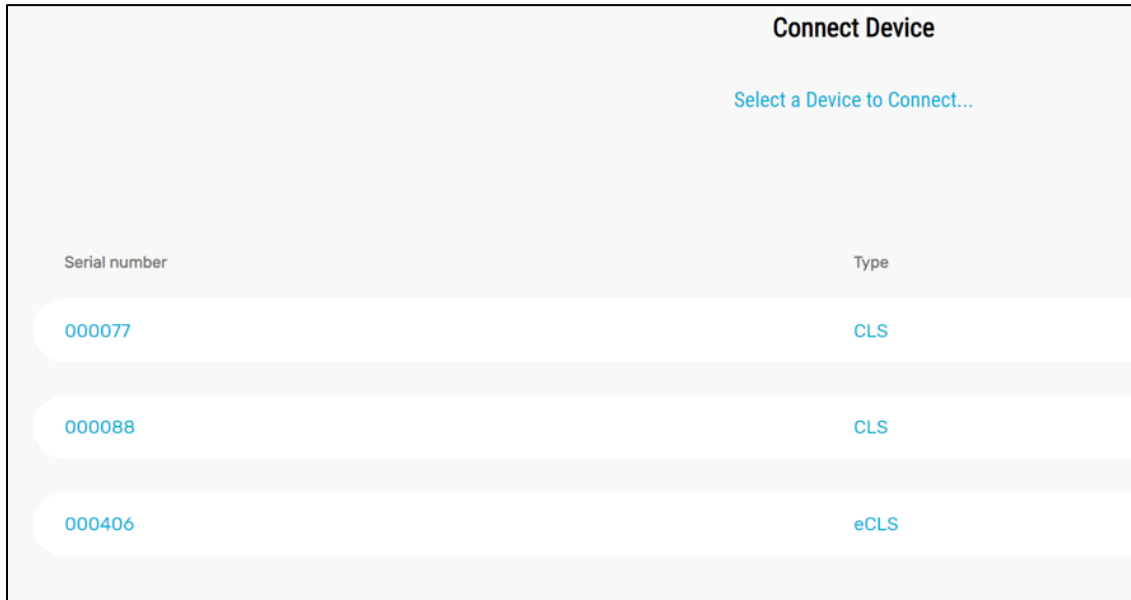

Figure 5.3: Connect screen showing the result of a scan for nearby stimulators.
2. Touch *Connect* on the start screen to access the Connect screen (as shown above). A scan for nearby stimulators will begin automatically, and a list of stimulators within range will appear on this screen (example shown in Figure 5.3).
3. Select the device you wish to connect to, based on serial number and type (see Figure 5.3).